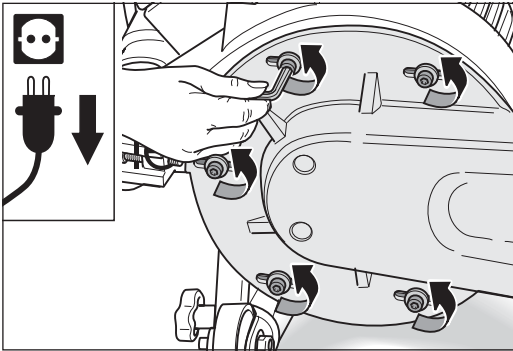

Fig. 59 Undoing the five fastening screws of the attachment. **Do not unscrew the screws all the way out!**
- 4 Use the proper Allen key to undo all five screws with which the attachment is installed on the fan housing (fig. 59). **Do not unscrew these screws all the way out!**